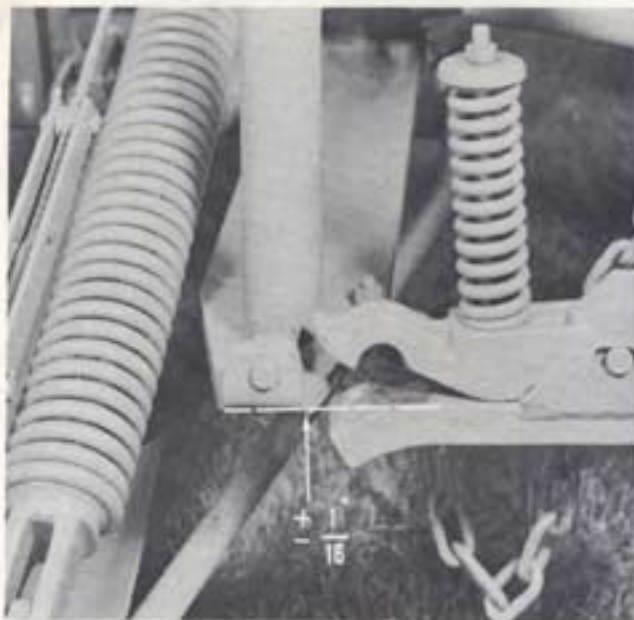

Fig. 39 Aligning Safety Release
3. With the cutter bar in the "break back" position, move the cutter bar and frame forward as if to re-engage in the safety release catch (Fig. 39).
4. The flat underside member of the swing frame should be $\frac{1}{16}$ " above to $\frac{1}{16}$ " below the top surface of the safety release "U" beam, as illustrated in Fig. 39.